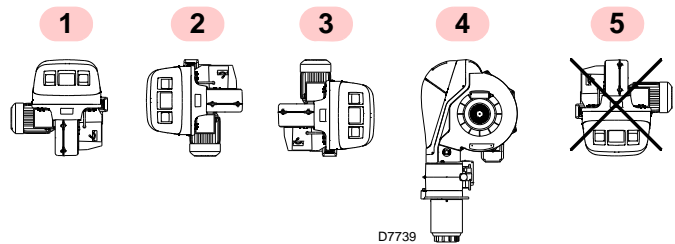

Fig. 10
- The burner is designed to operate only in positions 1, 2, 3 and 4 (Fig. 10).
For boilers having a water-cooled front the refractory fettling 2)-5)(Fig. 10) is not required unless it is expressly requested by the boiler manufacturer.
- Create a suitable hoisting system by hooking onto the rings 3)(Fig. 10), removing the fastening screws 7) securing the cover 8) first.
- Slip the thermal protection onto the blast tube 4) (Fig. 10).